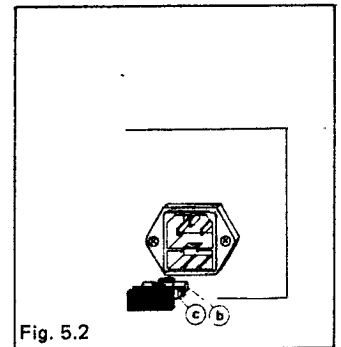

Fig. 5.2
- Replace defective fuse ② by new fuse ③ after checking for correct fuse rating (Fig. 5.2).
- Insert spare fuse ③ and replace insert ①.